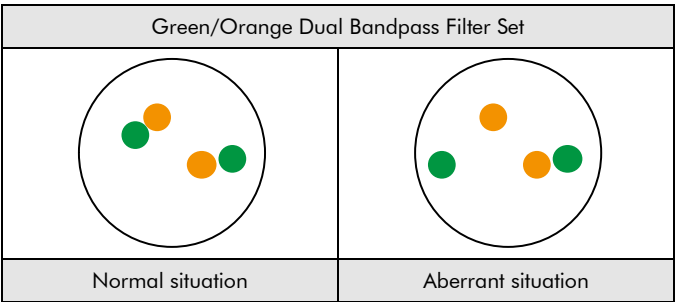

Fig. 2: Expected results in normal and aberrant nuclei
**Normal situation:** In interphases of normal cells or cells without a translocation involving the NUTM1 gene region, two green/orange fusion signals appear (see Fig. 2).
**Aberrant situation:** One NUTM1 gene region affected by a translocation is indicated by one separate green signal and one separate orange signal (see Fig. 2).